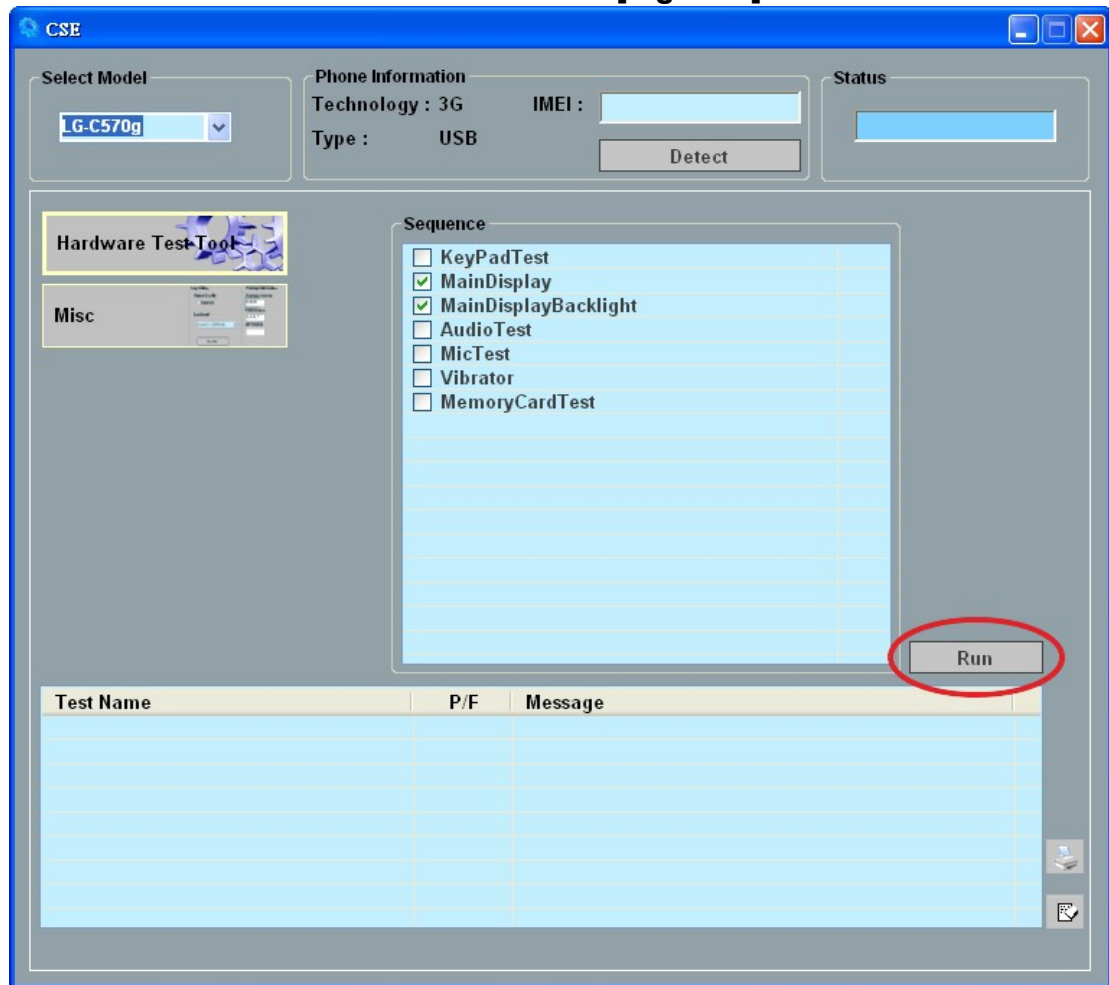

Figure 7. Click Run button to diagnose HW.
2. Press the button “Run” to start the tests [Figure 7].